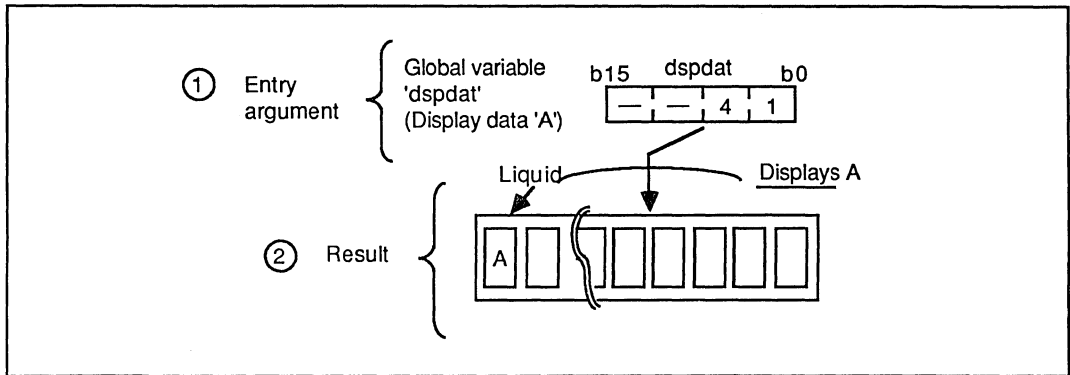

Figure 4-19. Program Module expdsp Execution Example
Example: Figure 4-19 shows an example of program module 'expdsp' execution. If entry argument is as shown in ①, 'expdsp' displays characters on the liquid crystal as shown in ②.